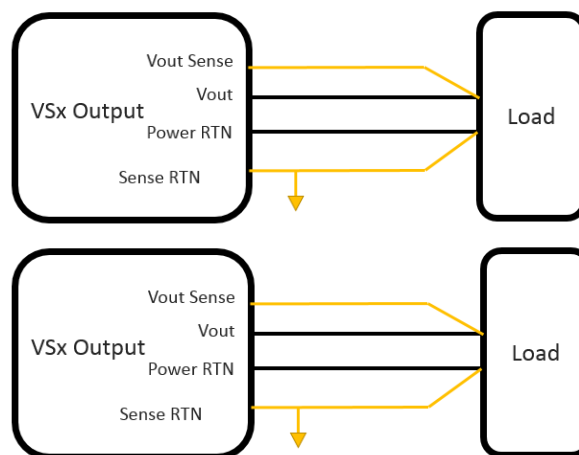

Figure 1: M4268 Sense line connection
*Sense Lines* proper connection is shown in Figure 1.